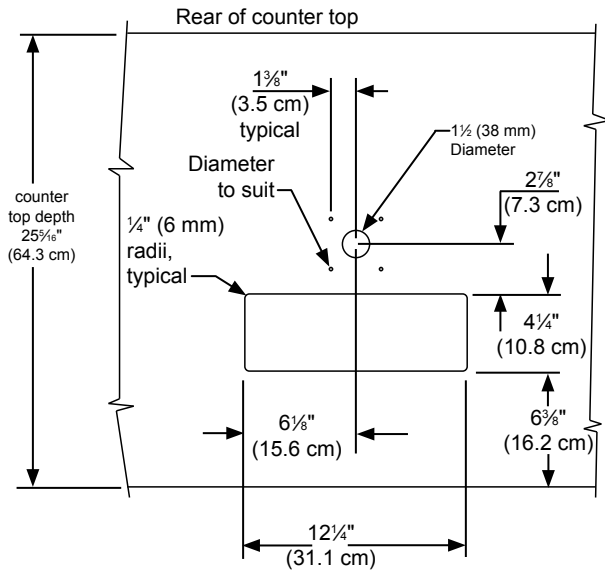

Figure 24
The cutout dimensions shown in Figure 24 are based on a 25 $\frac{5}{16}$ " (64.3 cm) deep counter top. Your counter top may be different than this and require other front to back dimensioning. Refer to the product dimensions on page 8 when determining the required dimensions.
- If you are installing your keg refrigerator under a counter you will need to drill 5 holes in the counter top to mount the tower. The first hole is a 1 $\frac{1}{2}$ " diameter hole located at the center of the tower for the beer line, locate approximately 13 $\frac{1}{2}$ " (34.3 cm) from the front edge of the counter top (based on a counter top depth of 25 $\frac{5}{16}$ "). Next drill the 4 tower mounting holes per the dimensions in Figure 24. The hole diameter is dependent on the counter top material and if screw anchors are required. The screws supplied are in the literature pack and are a #10 x 1" type AB stainless steel screw. Mark and cut the rectangular cutout for the drain sump. After the holes are drilled and the keg refrigerator is in place under the counter top feed the beer line through the tower gasket, the 1 $\frac{1}{2}$ " hole in the counter top and the hole in the top of the keg refrigerator. Mount the tower to the counter top with the 4 screws provided. Place the counter top drain sump, from the literature pack, in the rectangular hole with the radius cutout to the rear around the tower and place the grate in the sump.